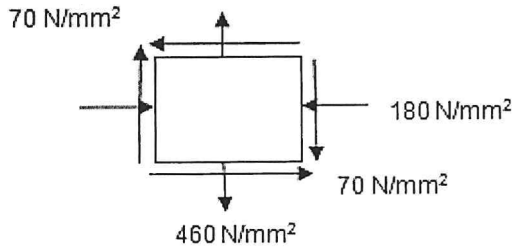

Figure Q.11 (b)
- b) For the plane stress system shown in Fig Q.11 (b), find the major and minor principal stresses and the planes on which they act. Also find the maximum shear stresses and the planes on which they act.